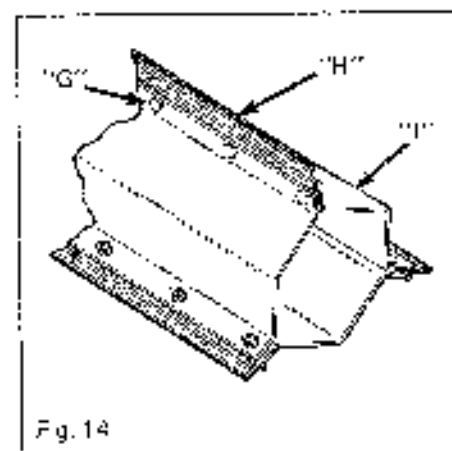

Fig. 15
2. Remove anchor screw (G), Figure 15, and reinstall screw in low position shown in Figure 15.
Spring must never be stretched (measured from end to end) more than 3" (76 mm). If necessary, reposition anchor screw to position "X", Figure 15.
2. Remove anchor screw (Q), Figure 15. (Models 225, 225E, 300 and 300E).
3. Loosen belt fingers (K) and belt guide (L). (Models 350, 350E, 500 and 500E).
4. Remove old belt (J).